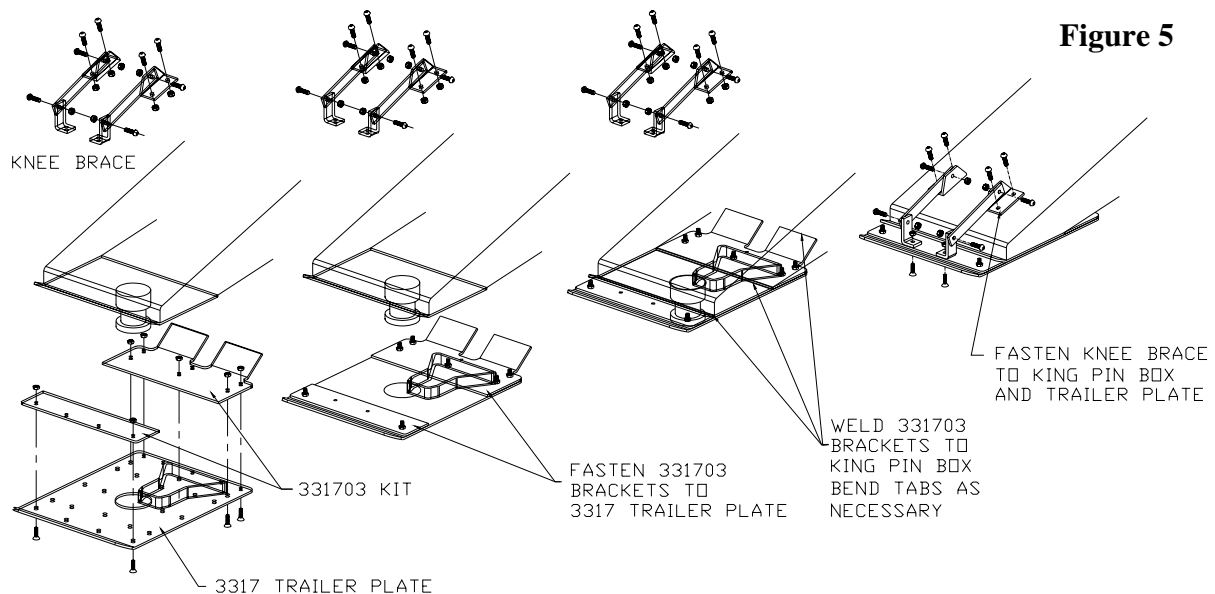

Figure 5
FOR KING PIN BOXES THAT ARE SHORTER FRONT TO BACK: (Figure 5)
1. Place the Trailer Plate {J2} over the king pin, with the guide wedge towards the rear of the trailer (wedge facing down), and measure the distance from the front and rear of the king pin box to the respective edges of the Trailer Plate {J2} (to the bend of the Trailer Plate {J2} in the front). Referring to Figure 5, fashion two plates, 3/16" to 1/4" thick, that will cover the holes of the Trailer Plate {J2} showing in front and rear of the king pin box.